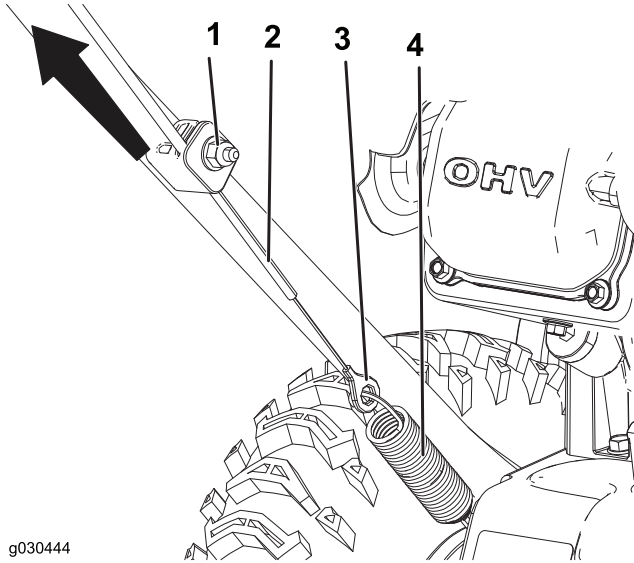

Figure 23
1. Loosen the nut on the lower cable clamp, but do not remove it (Figure 23).
2. Pull the cable up to remove some slack (Figure 23).
3. Hold the cable in place and tighten the nut (Figure 23).